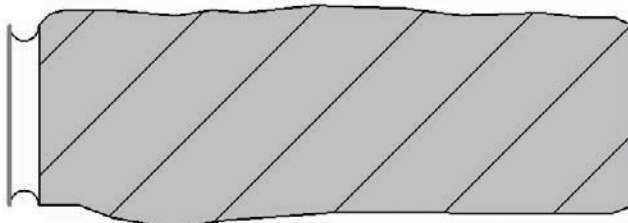

FIGURE 12.30 The finished brick
17. Press Esc. Your brick should now look like Figure 12.30.